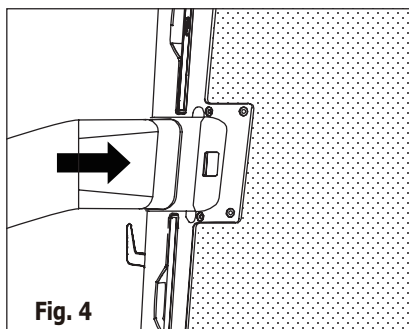

Fig. 4
2. Slide the adaptor A into the exchange hole of the unit as shown on Fig. 4.